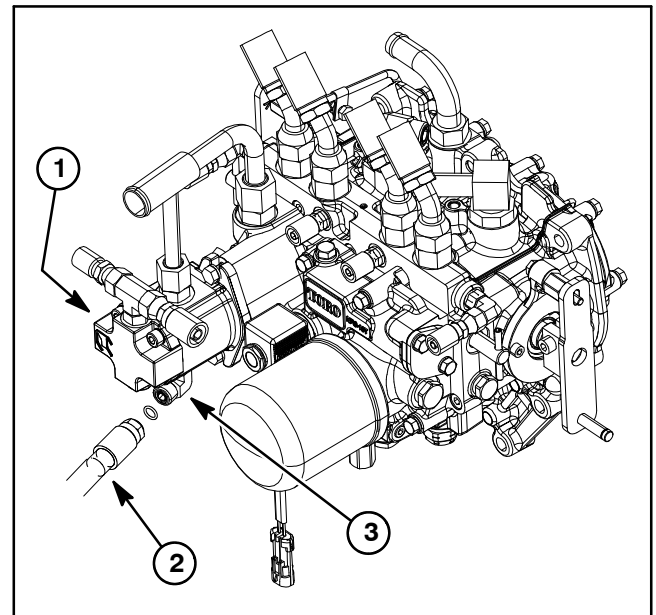

Figure 40
6. Disconnect hydraulic hose from lower fitting on gear pump (Fig. 40).